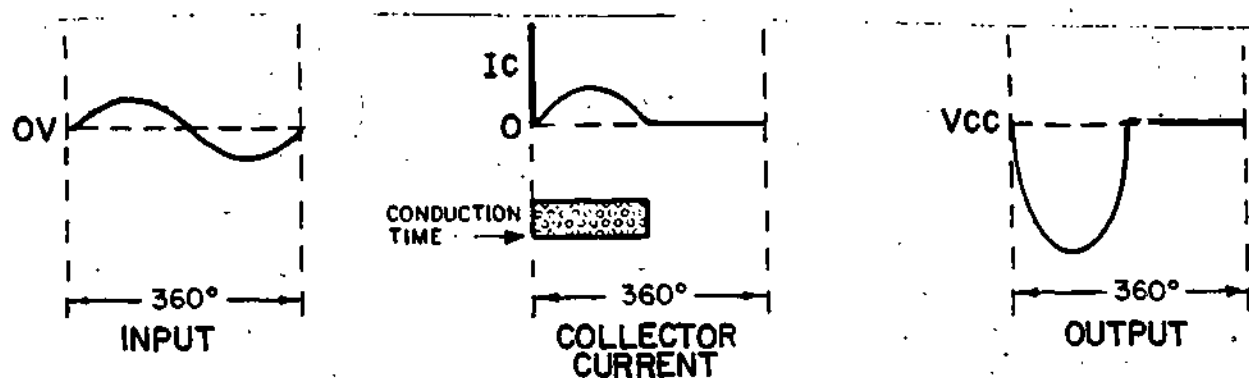

Figure 29
31. Figure 29 shows the operation of Class B amplifiers.
In Class B amplifiers, the transistor conducts for half the duration of the input cycle, or 180° . In the center diagram of Figure 29, the bar chart shows that the transistor conducts for half of the cycle. Notice that Class B amplifiers have near zero bias which causes the transistor to cut off.
In Figure 29, the output waveform is clipped for 180° due to no transistor conduction. Therefore, the clipped output signals of Class B amplifiers are distorted when compared to the output signals of Class A amplifiers. However, Class B amplifiers are more efficient due to the reduced conduction time. We will discuss more about efficiency in a later frame.